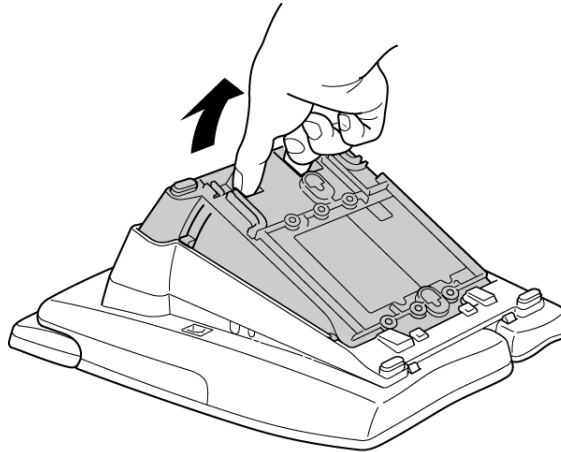

Figure 5-2: Raising the Base Plate
2. Grasp in the middle of the hollow spaces at the top and pull up until the retaining tabs click to raise the base plate. Refer to *Figure 5-2: Raising the Base Plate*.